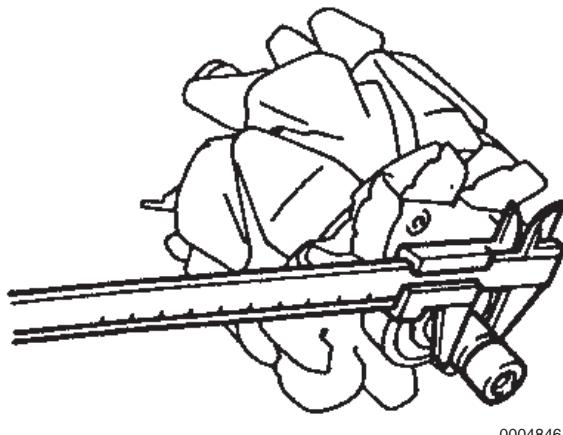

Figure 11-21
4. Measure the slip ring diameter using calipers (**Figure 11-21**). If the slip ring diameter is not within specifications, replace the rotor